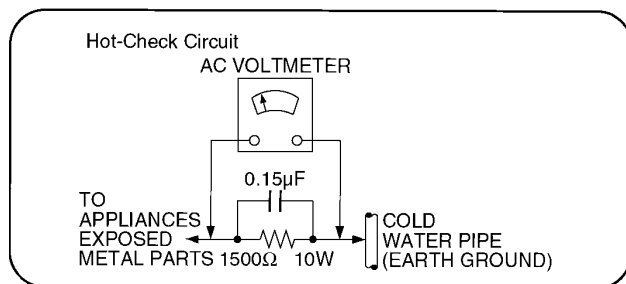

Figure 1
1.1.2. Leakage Current Hot Check (See Figure 1.)
2. Connect a 1.5kohm, 10 watts resistor, in parallel with a 0.15µF capacitors, between each exposed metallic part on the set and a good earth ground such as a water pipe, as shown in Figure 1 .